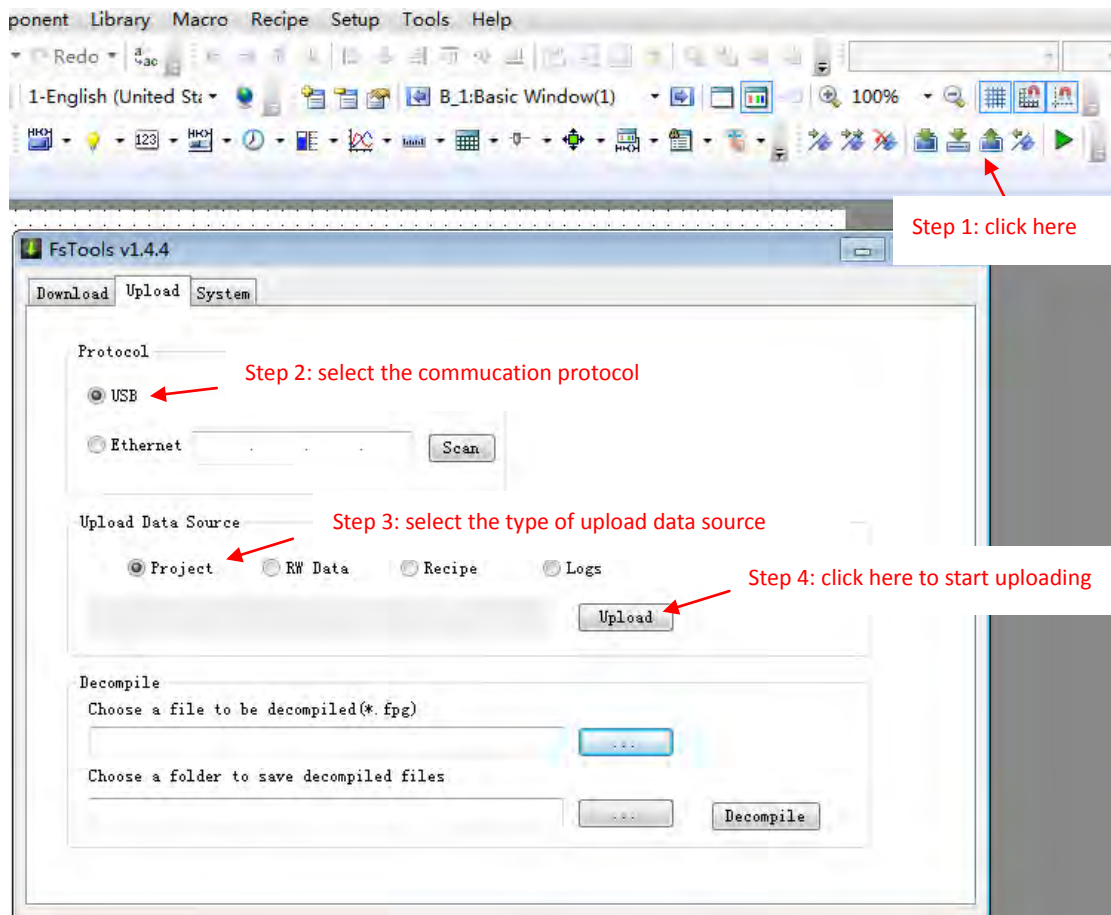

Fig. 20
① Click the "Upload" icon on the tool bar, set the communication mode, select to upload the project, and start to upload the project, as shown in Fig. 20.